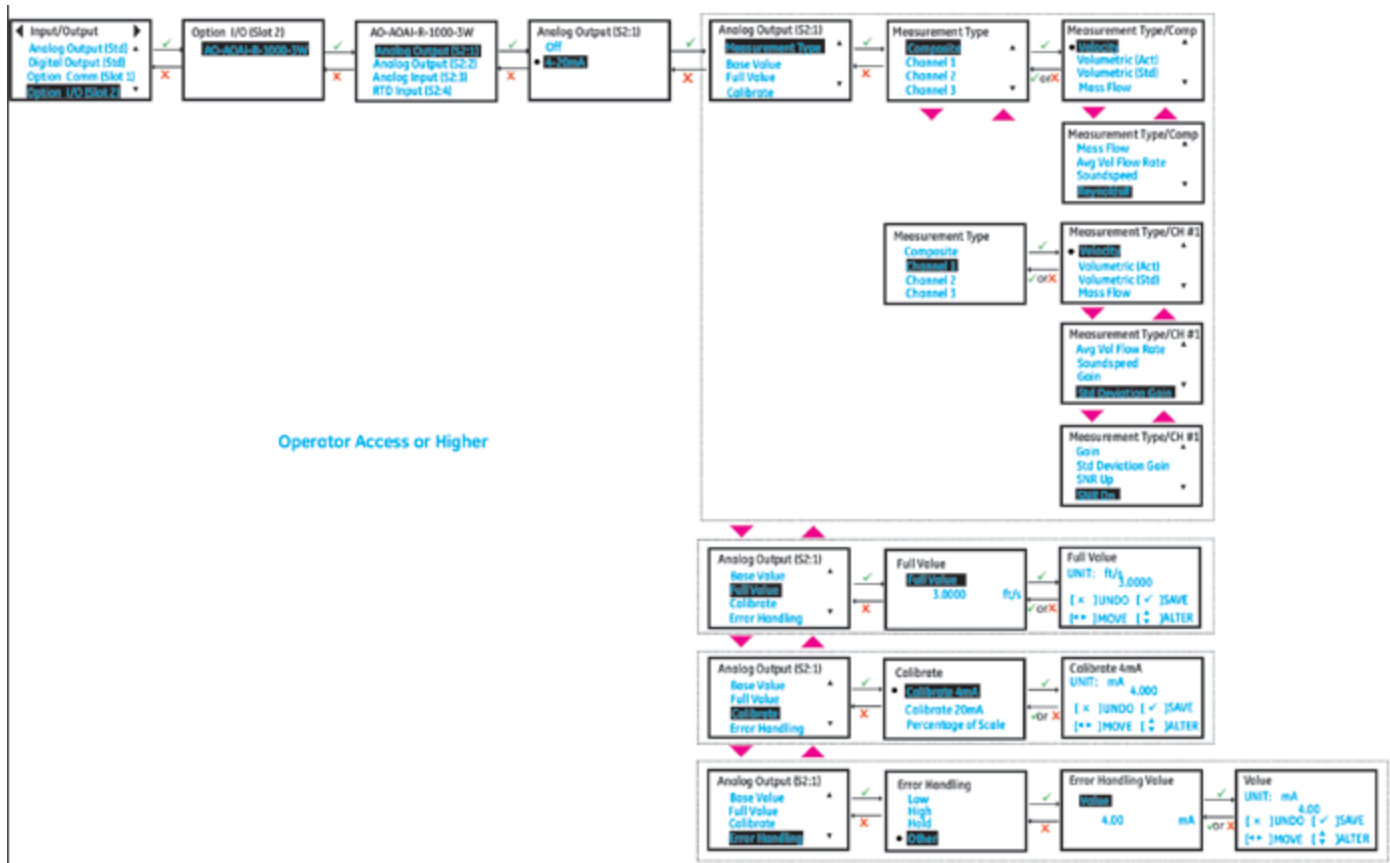

Figure 63: Setting up option I/O analog output
4. If you are connecting an Analog Output, choose 4-20mA option. Figure 63 below, shows the options available.